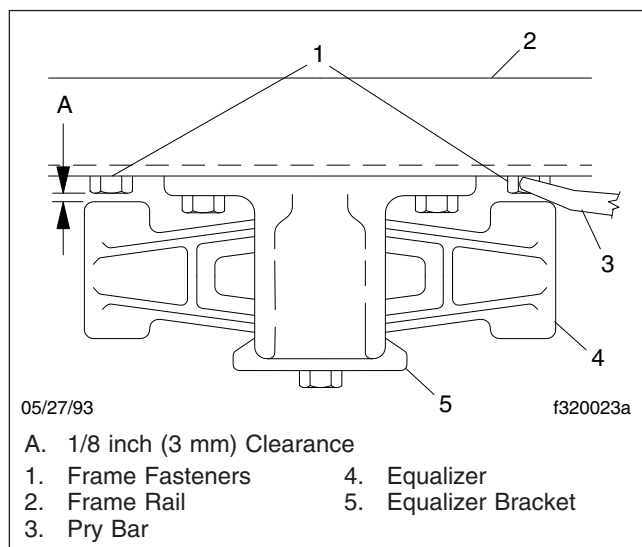

Fig. 3, Top View of the Equalizer
- With the vehicle unloaded, attempt to move the equalizer side to side using a pry bar between the equalizer and frame rail. Apply hand-pressure only. See Fig. 3. If clearance between the equalizer assembly and any frame component or fastener is less than 1/8 inch (3 mm), replace the equalizer bushings.